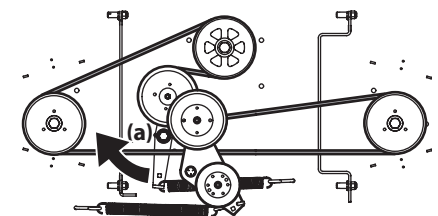

Figure 55
5. Using a 1/2" drive insert the end into the 1/2" square opening in the deck idler assembly (a) and rotate the deck idler assembly (a) clockwise. See Figure 55. While holding the deck idler assembly (a), loosen the deck belt from the pulley and slide the belt away from the pulley.
6. Route the new belt as shown in Figure 55. Then reinstall the deck and PTO belt.